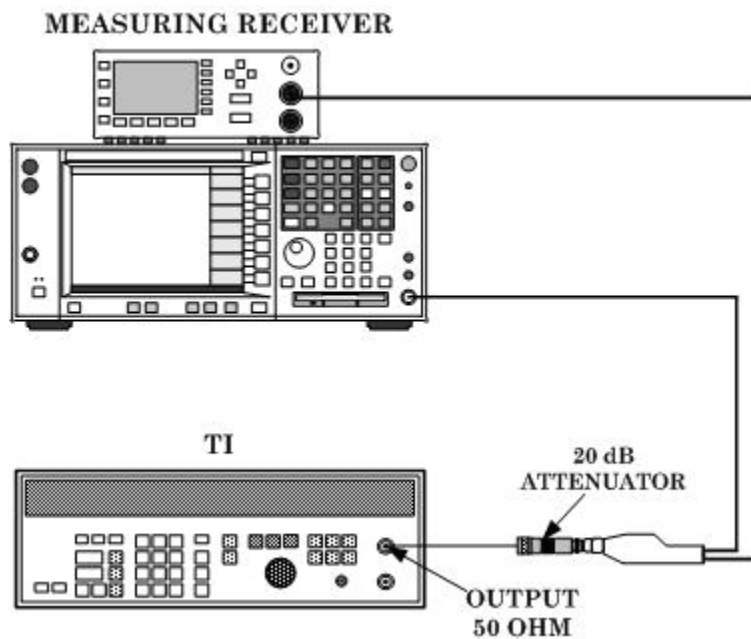

Figure 5. Attenuator accuracy.
- (1) Connect equipment as shown in figure 5.
- (2) Press TI **FREQUENCY** to 40 MHz and **AMPLITUDE** to +13.01 dBm.
- (3) Establish a ratio reference on measuring receiver for Tuned RF Level at 40.0 MHz.
- (4) Set TI to values listed in table 6 below. Using measuring receiver and Tuned RF Level measurement techniques, measured RF level will indicate within limits specified in table 6.